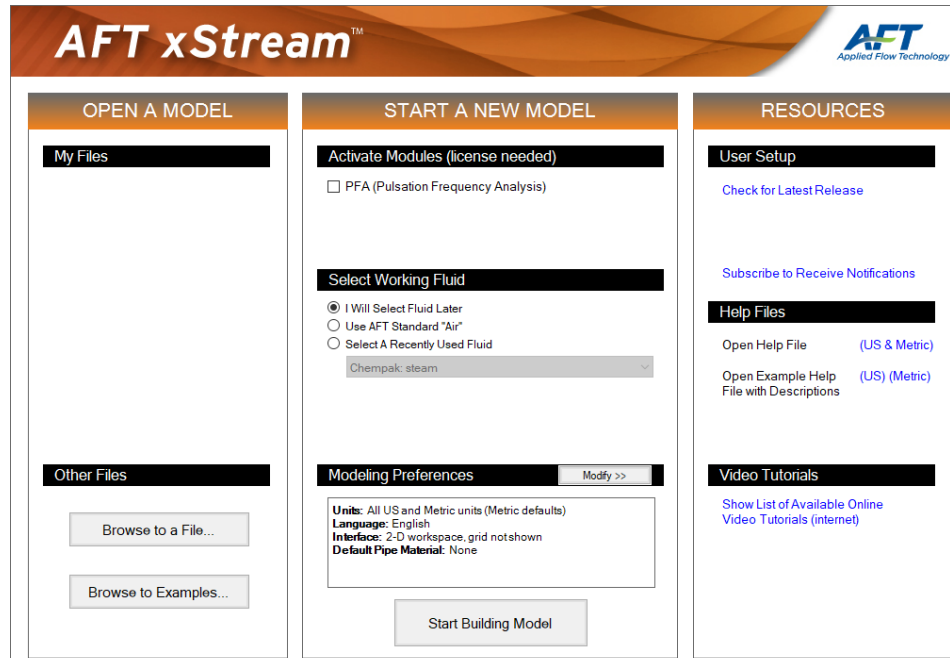

Figure 2: Startup Window showing Modeling Preferences
- Modeling Preferences** - Displays various settings for the application, such as specifying the units to use or which grid to use. These options can be modified later. Click the **Modify** button to reveal the following settings, as shown in Figure 2. Click the **Remember My Preferences and Hide** button to update the modeling preferences for the model and to update the default settings for the application.